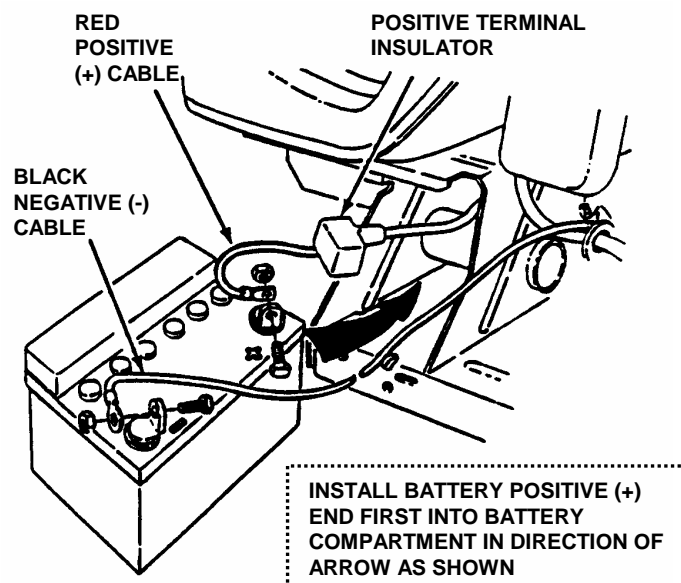

FIGURE 4.18
4. Observe and note cable positions on battery. See Figure 4.18.